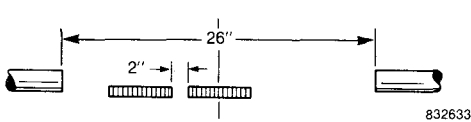

Fig. 31—Measure splice head.
- Measure splice head so module falls 2" (50 mm) from edge of center connectors. See Figure 31.